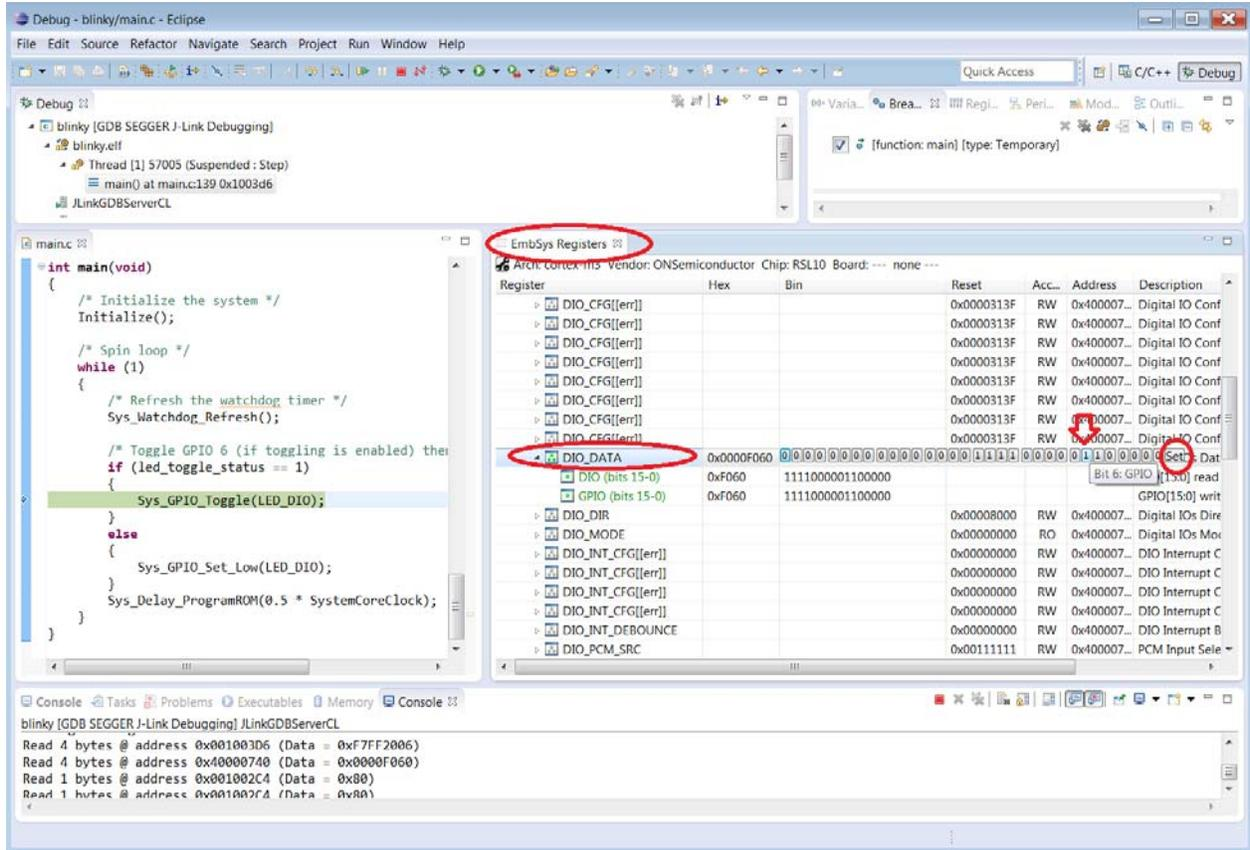

Figure 22. Toggling RSL10 DIO Using the EmbSys Registers View
6. The EmbSys Registers view will open and display all the RSL10 peripheral registers. If you wish, you can drag the EmbSys registers window and place it side-by-side with your source code view (see Figure 22 on page 24)
9. Double click the **Bin** column, which contains the current binary value of this register. It will display buttons for each bit. Click on the **Bit 6: GPIO** button to change its state and then click on **Set**, as shown in Figure 22 on page 24. You can observe that the LED (DIO6) on your board changes its state.